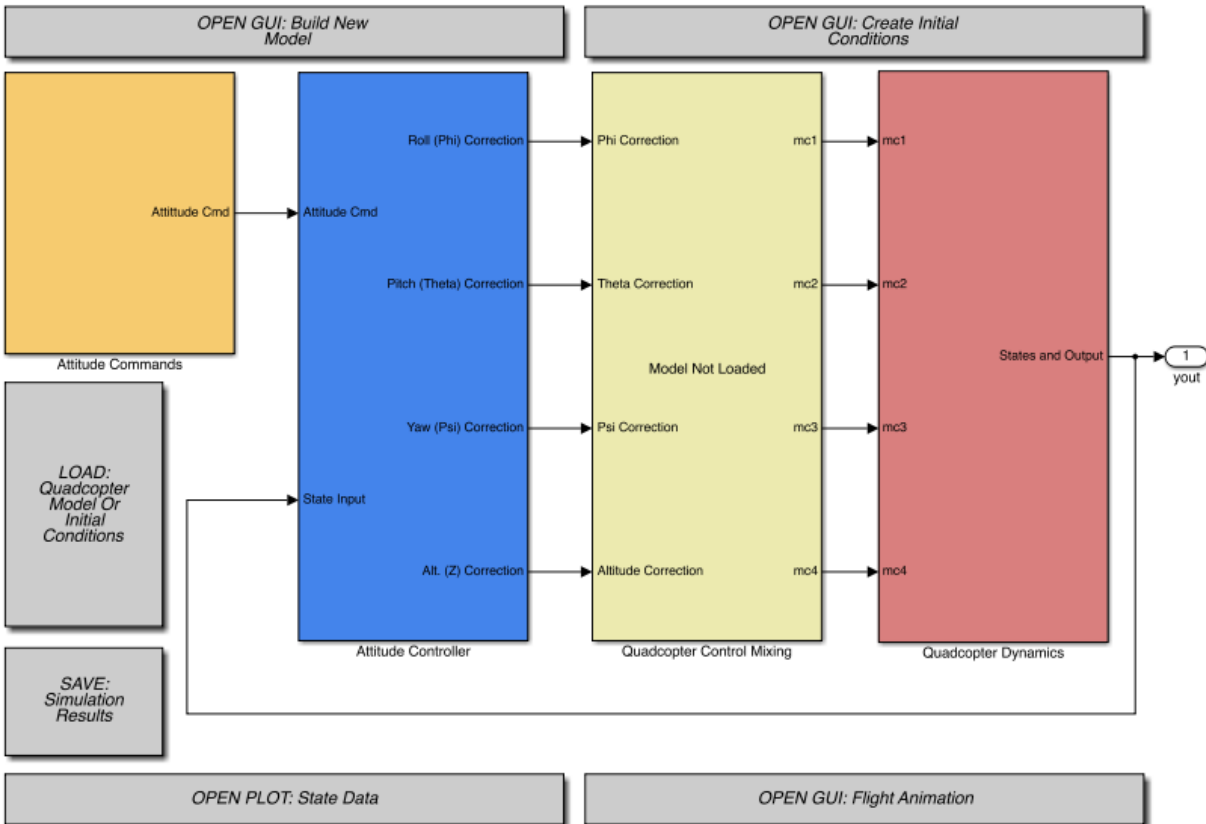

Figure 1. AC Simulation Overview
2. This is an attitude-command-only model. In other words, there is no control system to track position. Instead the controller only tries to track attitude ( $\phi, \theta, \psi$ ) and altitude (Z) commands using a PID controller (that isn't particularly well tuned either). When you first open the model you should see something like this (Figure 1).